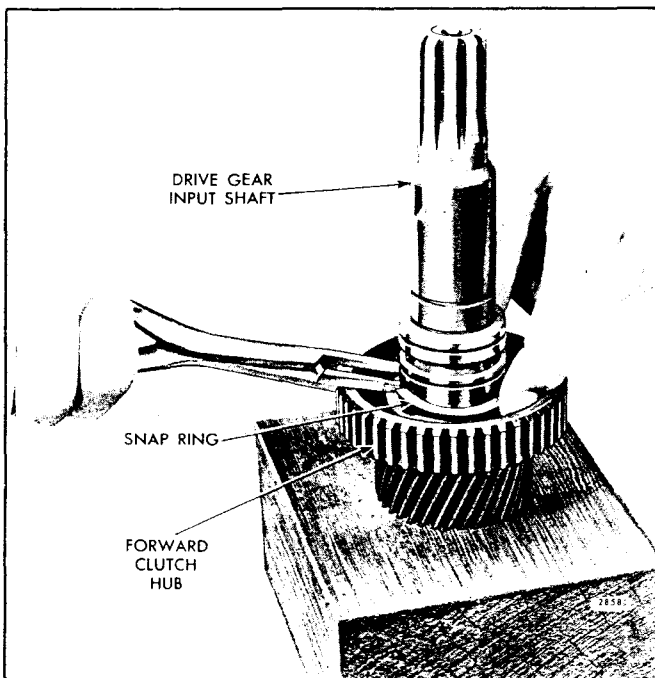

Fig. 30 - Removing or Replacing Forward Clutch Hub Snap Ring
- c. Remove the forward clutch hub snap ring from the grooves in the drive gear input shaft with a pair of snap ring pliers J 5586 as shown in Fig. 30.